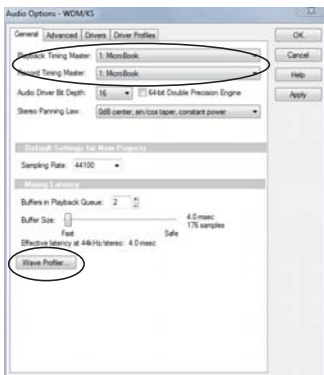

Figure 6-8: Make sure you have chosen a MicroBook input and output for the playback and recording timing master settings.
- 2 Choose a MicroBook input and output for recording and playback timing as shown below in Figure 6-8. It doesn't matter which input or output you choose.